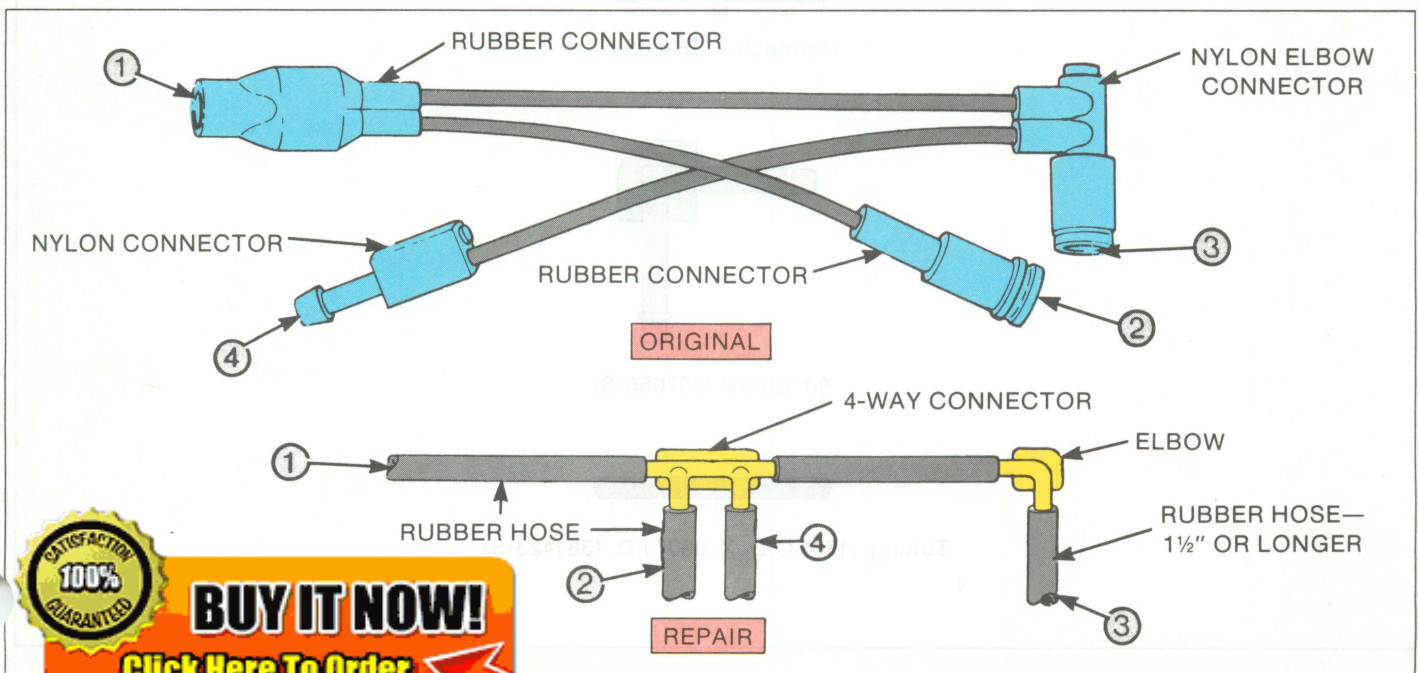

Figure 110 — Replacement of Damaged Harness
4. Figure 110 . . . shows how to replace a damaged harness with available service stock . . . rubber hoses (5/32-inch and 7/32-inch), tees and elbows. Cut the hoses to the required lengths but never less than 1 1/2 inches. Be sure to properly route the hoses, using the identification numbers provided for this purpose.